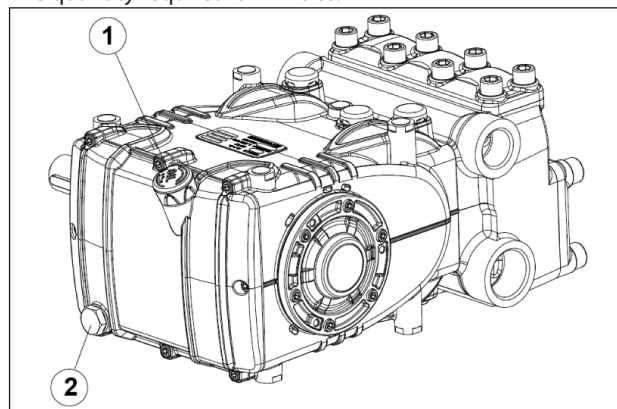

Fig. 3
Using the oil dipstick pos. ①, Fig. 3.
The correct checking of the oil level is made with the pump not running, at room temperature. The oil change must be made with the pump at working temperature, removing: the oil dipstick, pos. ①, and then the plug pos. ②, Fig. 3.